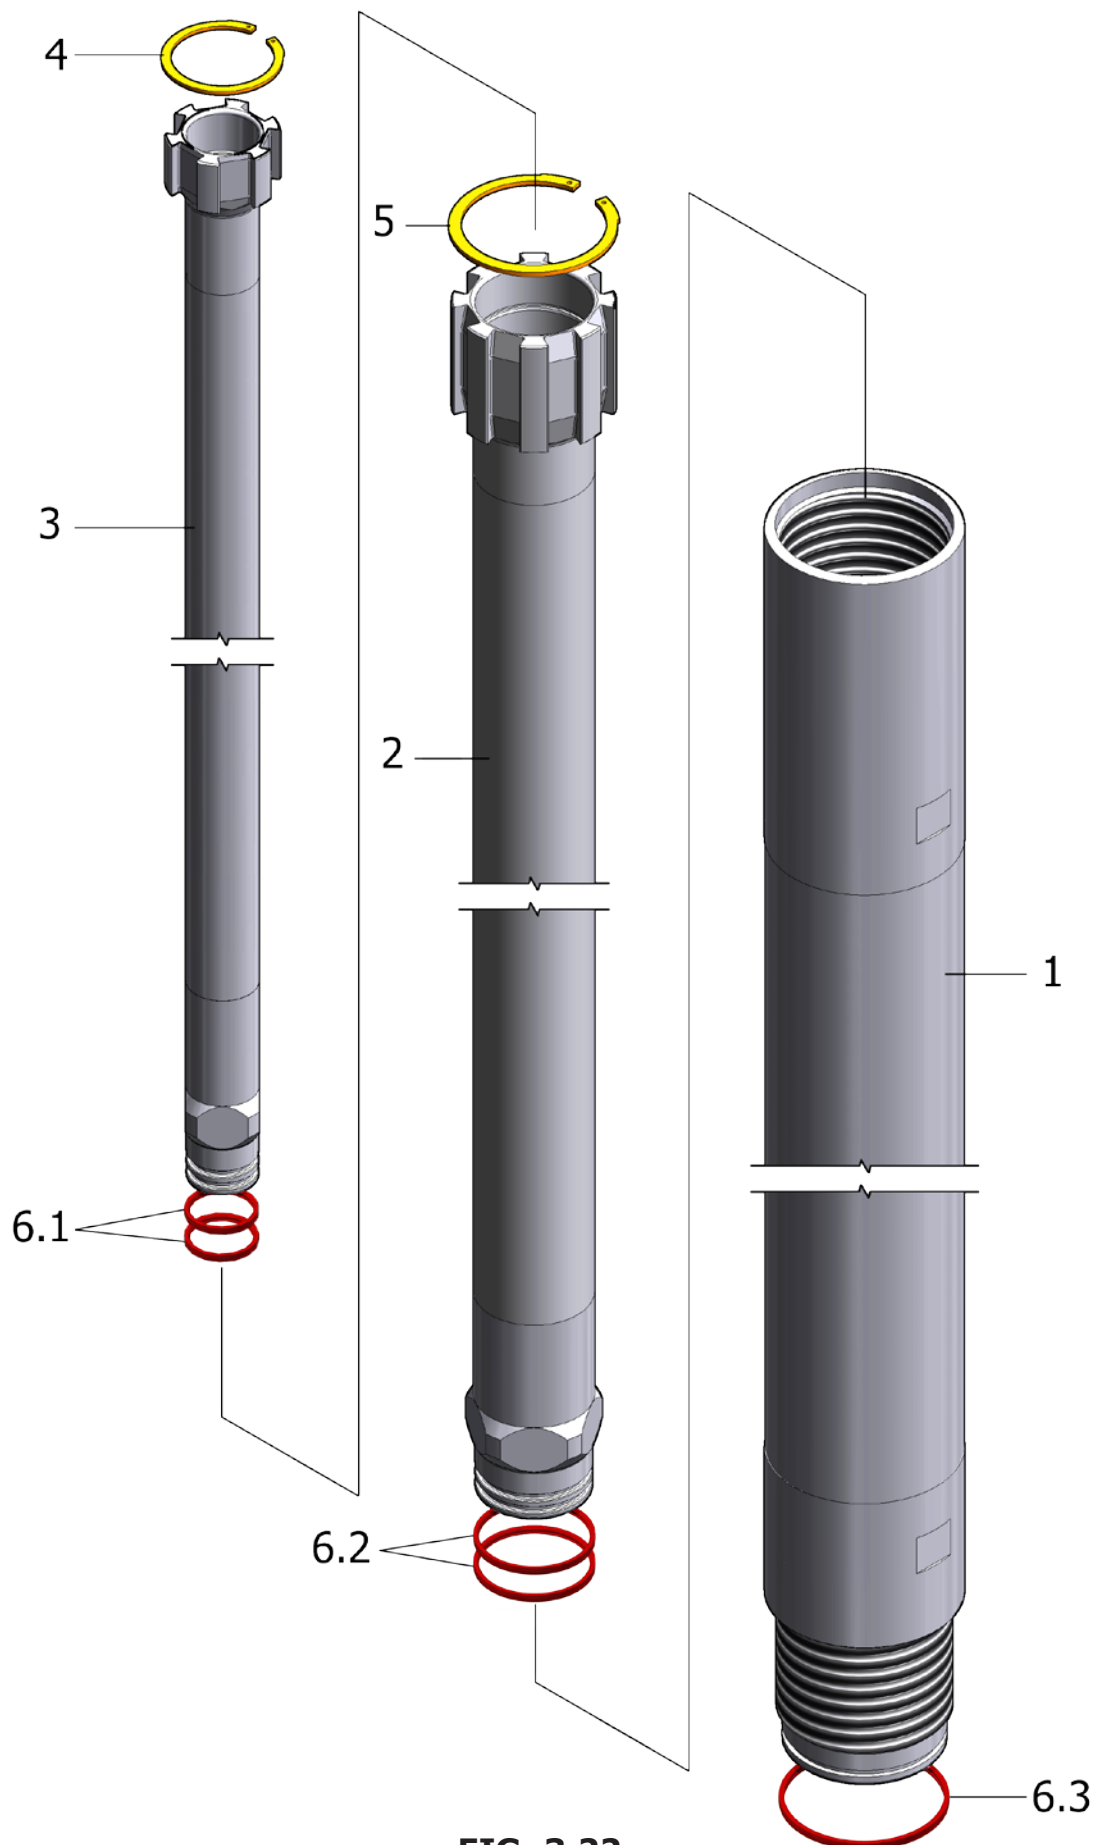

FIG. 3.22
D.114 C3 ROD: J-114C3100 (L=1000); J-114C3200 (L=2000); J-114C3300 (L=3000) (REF. FIG. 3.22)